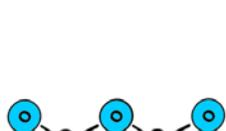

Figure 5
- $B_2O_3$  – chemical formula for boron oxide. Also used as the chemical formula for glassy state borate. Composed of two boron atoms and three oxygen atoms in a zig-zag formation (in non-glassy state). In glassy state, arranges into the trigonal, tetrahedral, and boroxol ring formations while still retaining the chemical name. (Figure 5)